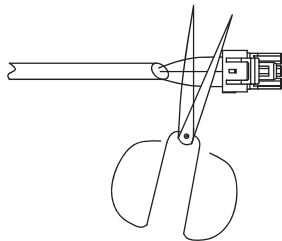

Fig. 15 — Shearing Outdoor Connector
1. Cut the connector on the outdoor unit side as shown in Fig. 15 below.